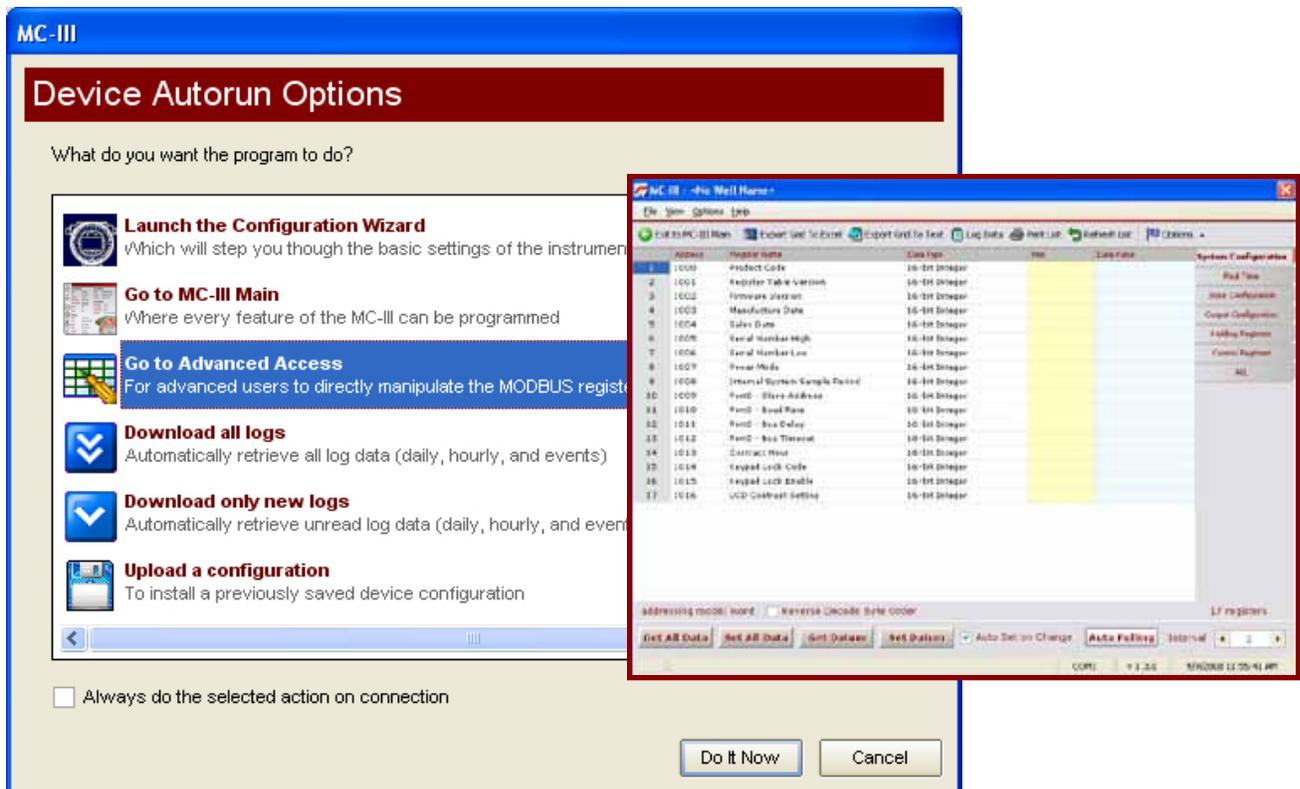

Figure 4.13—Advanced Access configuration option for system configurators and host programmers
- The Advanced screen (Figure 4.13, page 45) provides access to Modbus® registers that can be modified to change configuration parameters (recommended only for system configurators and host programmers).